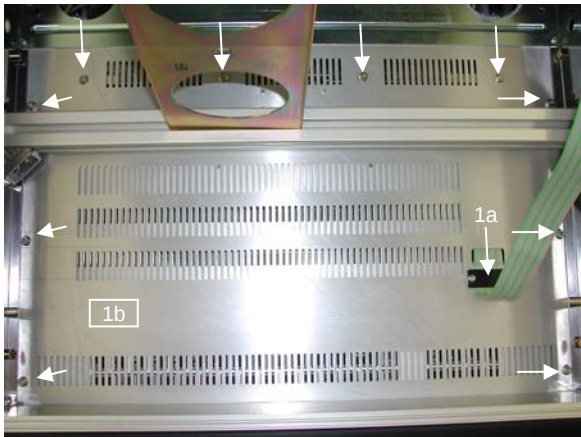

Fig.1 Top view with open bay
1. Switch off the desk and open the Control Bay above the keyboard drawer (Fig 1)